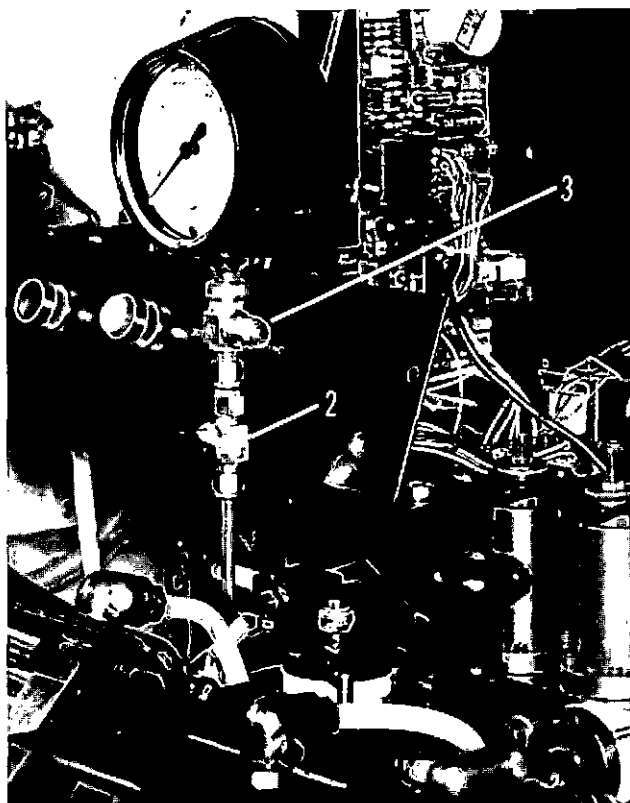

Fig. 4-26. Gear pump test hook-up
2. Connect the pressure gauge in the audit kit, adapter and valve to the junction block, Fig. 4-26. Install the tubing cap on the gauge assembly tee.
2. Remove the tubing cap (3 Fig. 4-26) from the pressure gauge. The pressure gauge is still connected to the junction block.